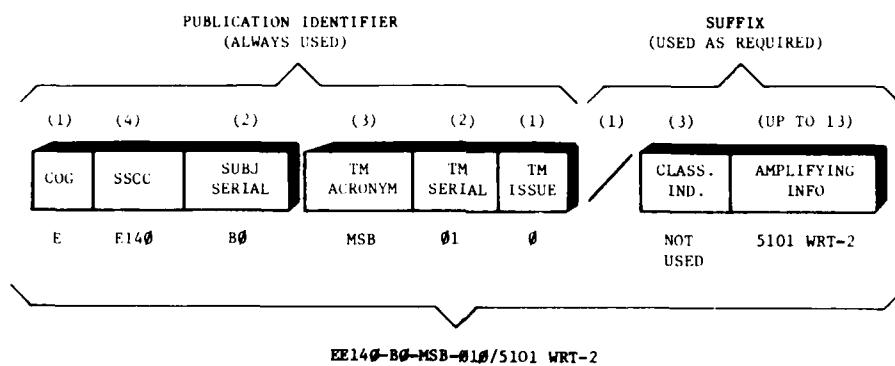

Figure 1-10. TMIN Example (NAVELEX)
4. Insert the derived alphanumeric codes into the proper TMINS format. See Figure 1-10.